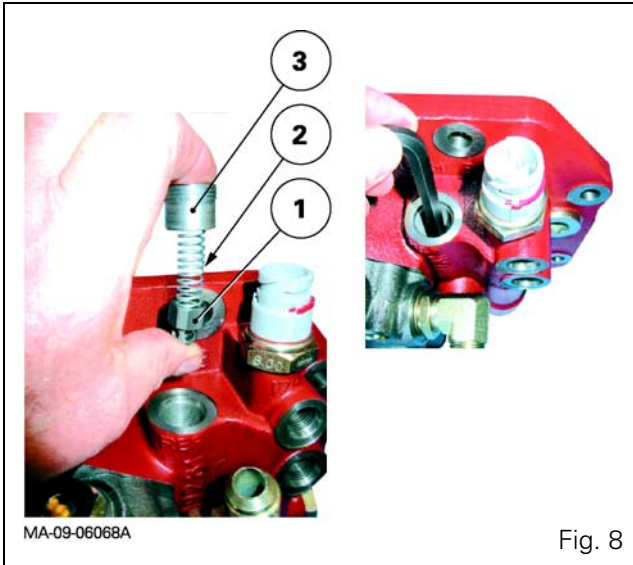

Fig. 8
14. Place the valve (1), spring (2) and threaded ring (3) in the cover (Fig. 8).
15. Compress the spring, tightening the threaded bush until it reaches a "hard point" (Fig. 8 - the bush has reached the cover shoulder).